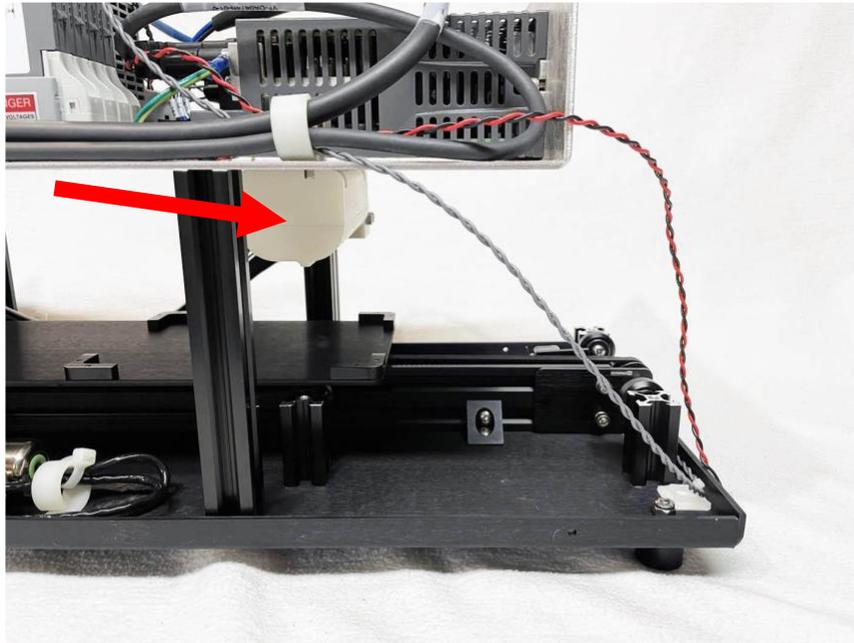

Figure 67 – Plasma Module – Plasma Generator
- b. See *Figure 67* for what the Plasma Generator looks like shown by red arrows. (color of Plasma Generator may vary but is usually beige or white)